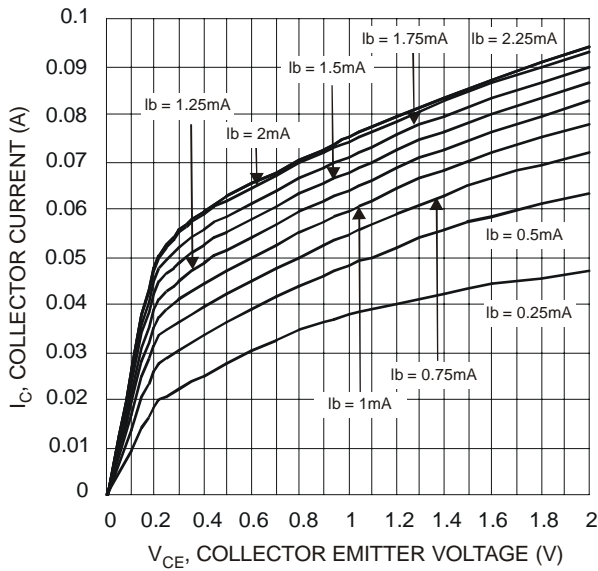

Fig. 2 V_{CE} vs. I_C
- Terminal Connections: See Fig. 2